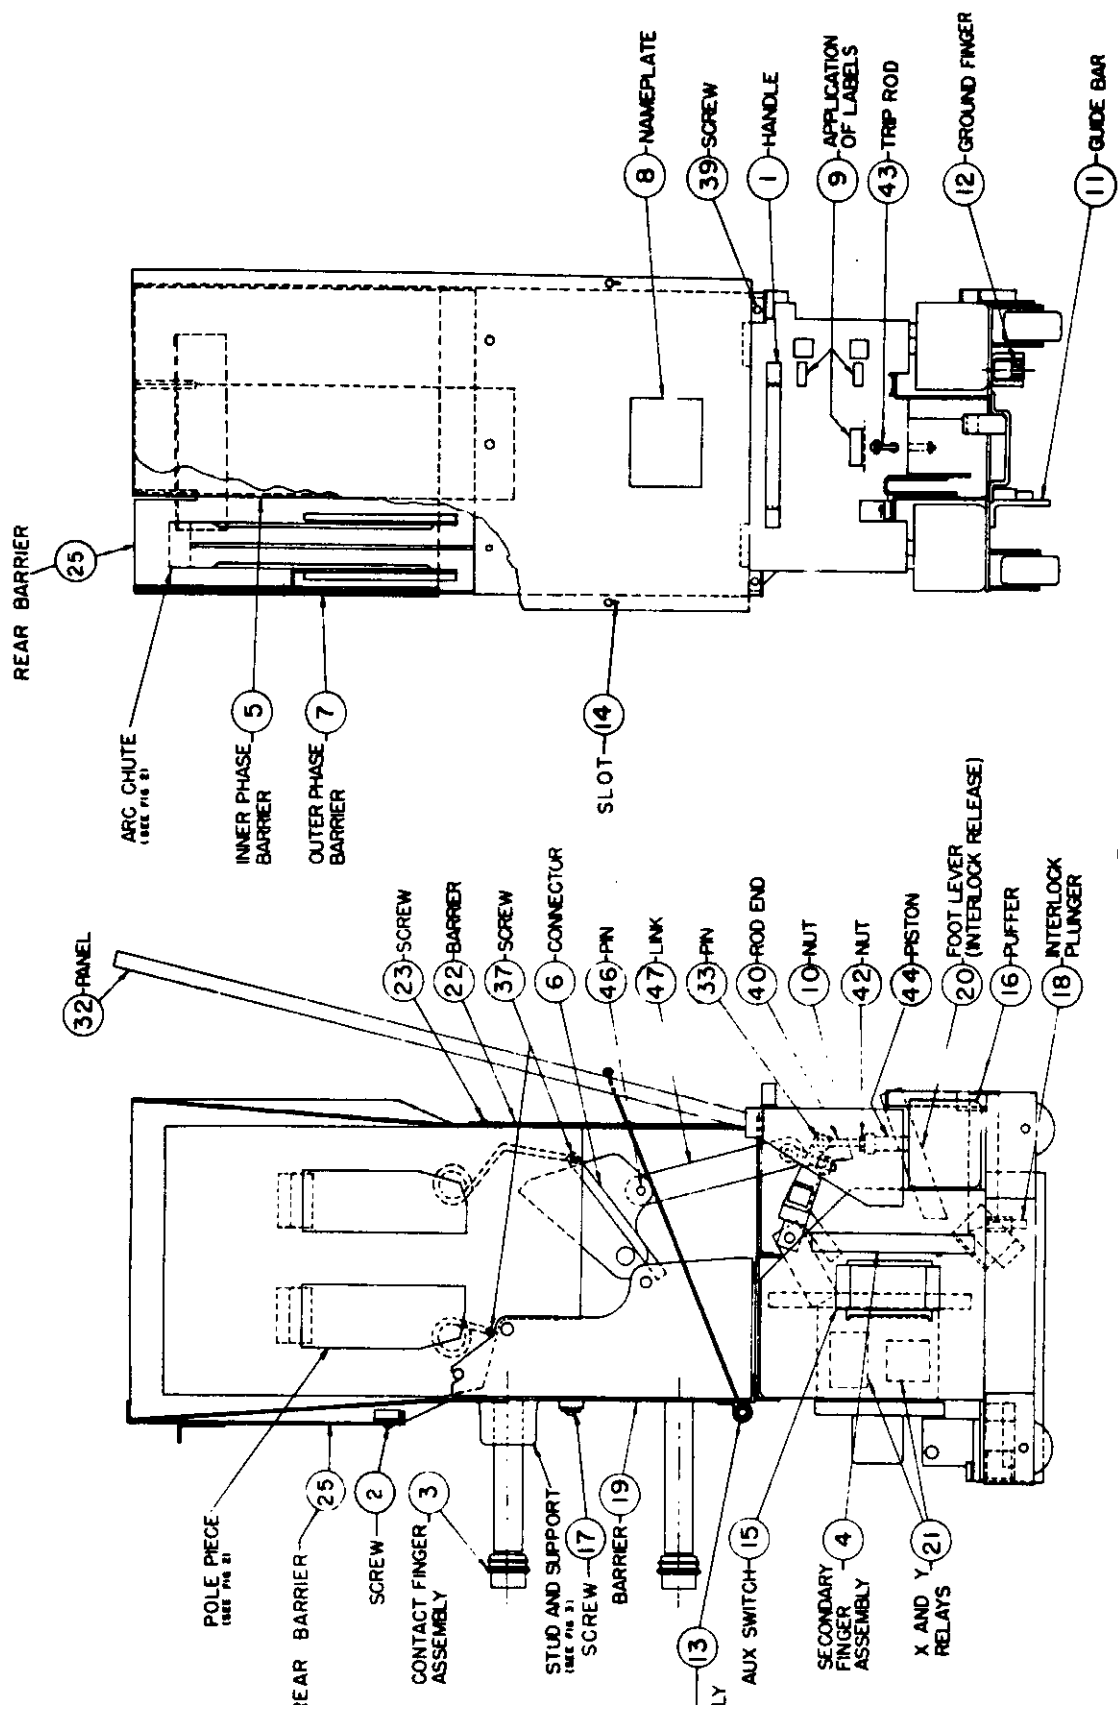

FIG. 1
6.3a PHASE BARRIERS (Fig. 1)
6.3b TILTING ARC CHUTES (Fig. 1)
6.3c BARRIER STACKS (Fig. 1)